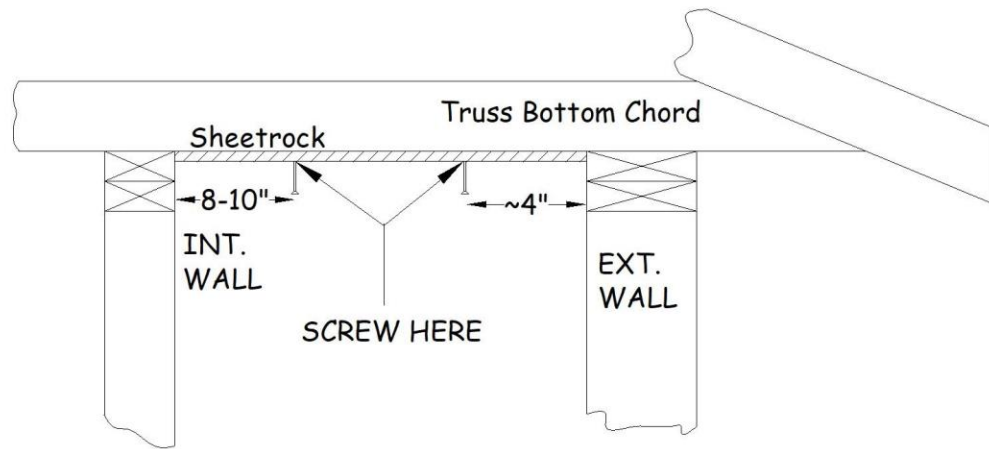

Figure 13-1. Screw Locations for Ceiling Sheetrock.
9. When fastening sheetrock to trusses that cross interior or exterior walls, hold the screws 8”-10” away from interior walls, and about 4” away from exterior walls (see Figure 13-1).